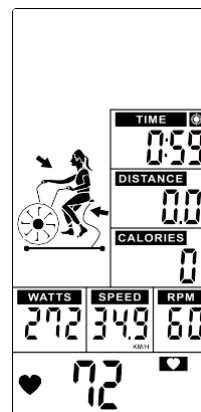

Figure 40
- ③ Preset TIME value counts down, DISTANCE, CALORIES, WATTS, SPEEED, RPM start to count up. (Figure 40)
- ④ Press START button once enter into PAUSE mode. Buzzer will sound for 0.5s per second within 30s. All values are displaying on LCD and flashing in every 2s. If continue to stop training for 5 minutes, buzzer sounds 2s and enter to Wake-up mode. Press START to resume workout.
- ⑤ No signal inputs for 30s, buzzer sounds 1 short beep and enter to Wake-up mode.